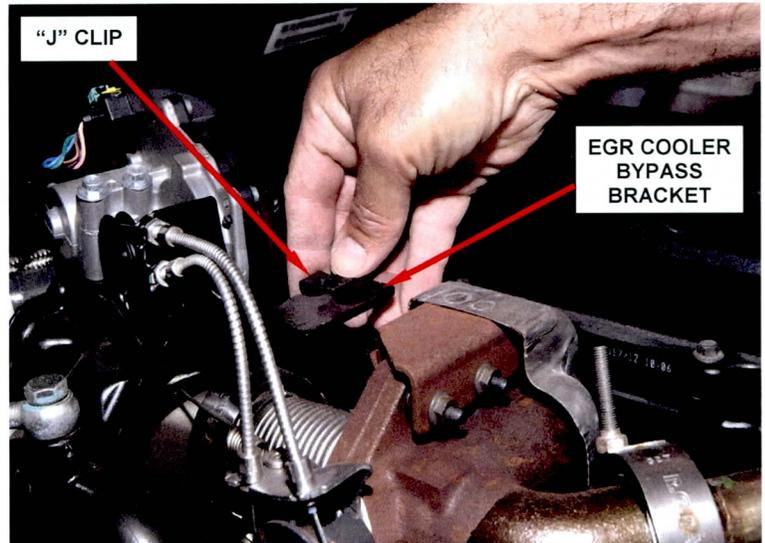

Figure 7 – Install “J” Clip
17. Install the supplied “J” clip onto the EGR cooler bypass bracket (Figure 7).